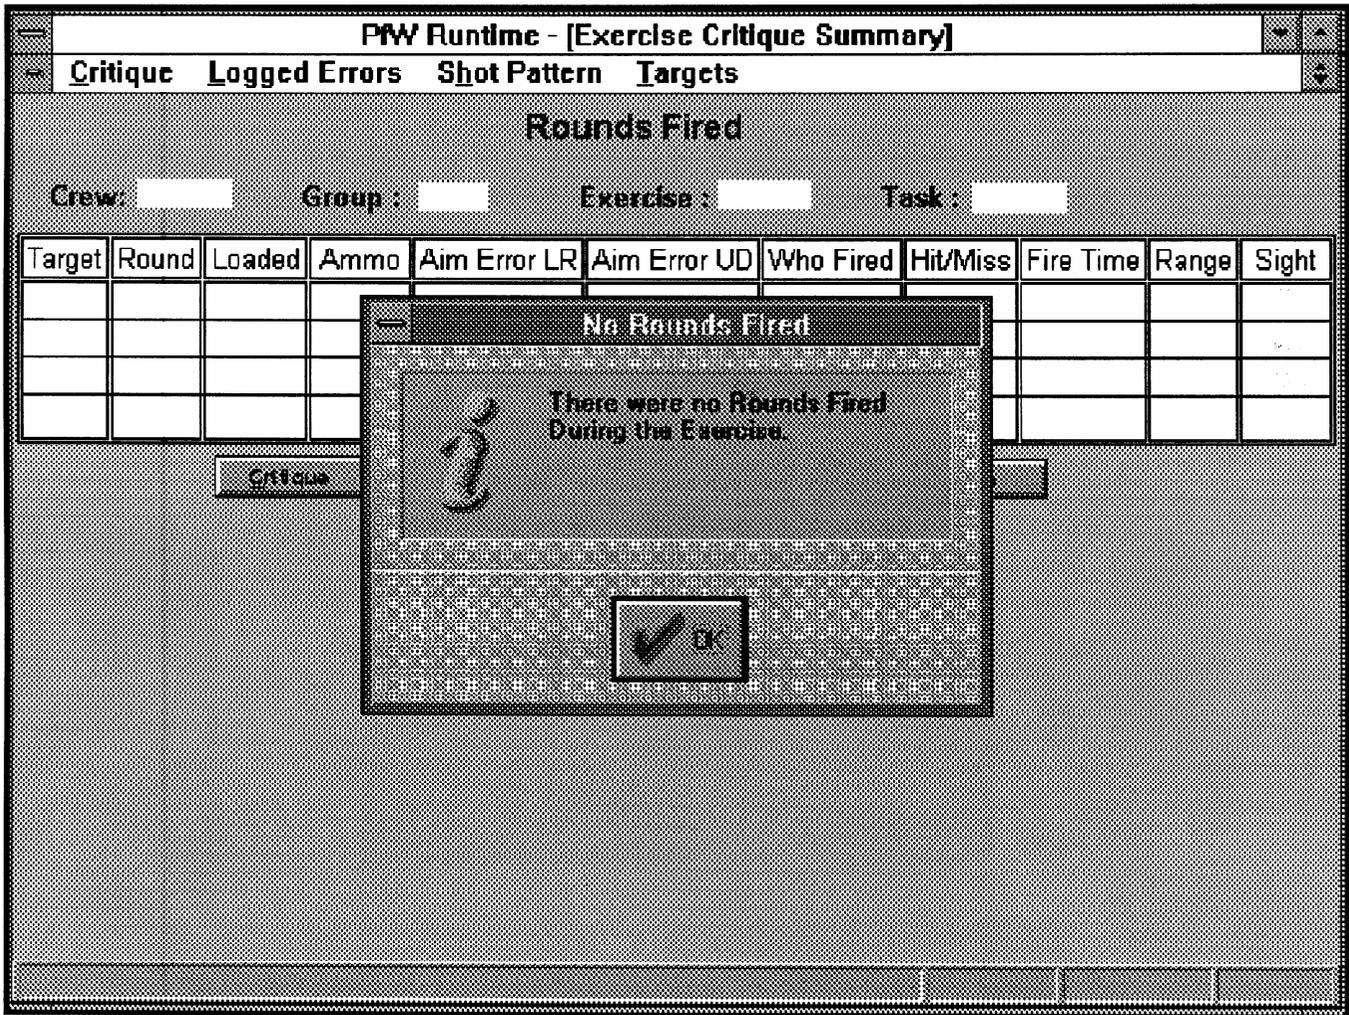

Figure 2-84. No Rounds Fired Message
- b. The system cannot respond as directed. For example, when the I/O or TC requests the Rounds Screen to display after a task in which no rounds were fired, AFIST displays the message shown in Figure 2-84.